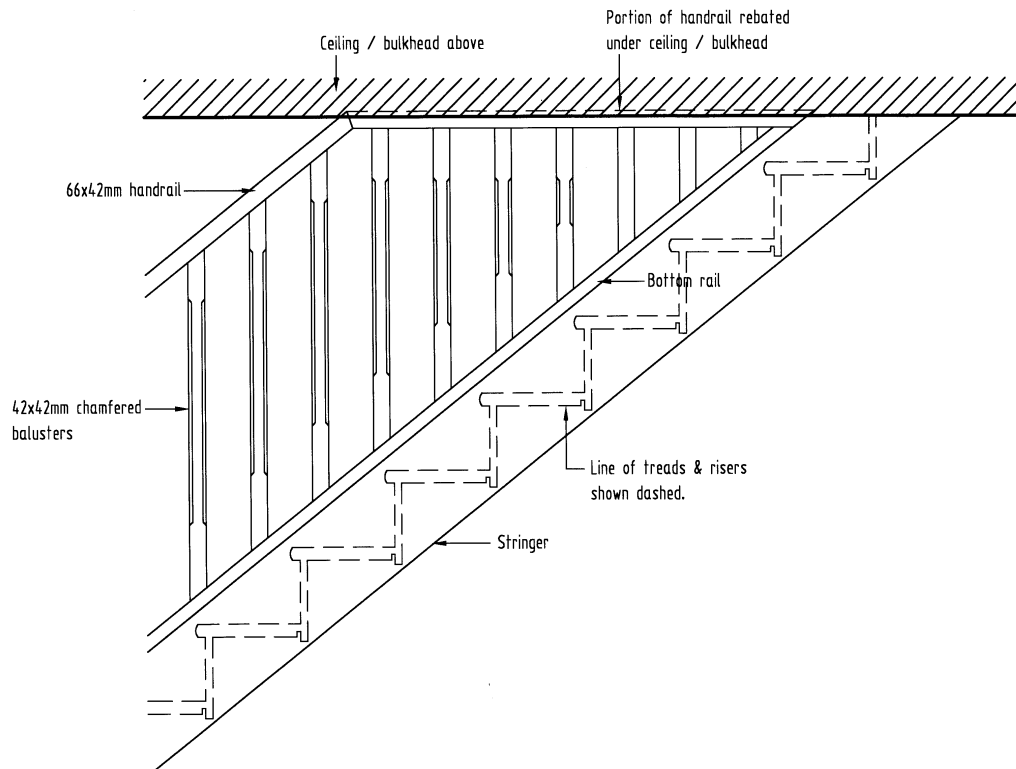

Figure 10
- 2) Mitre the intersecting handrails at the ceiling line (Refer Figure 10)